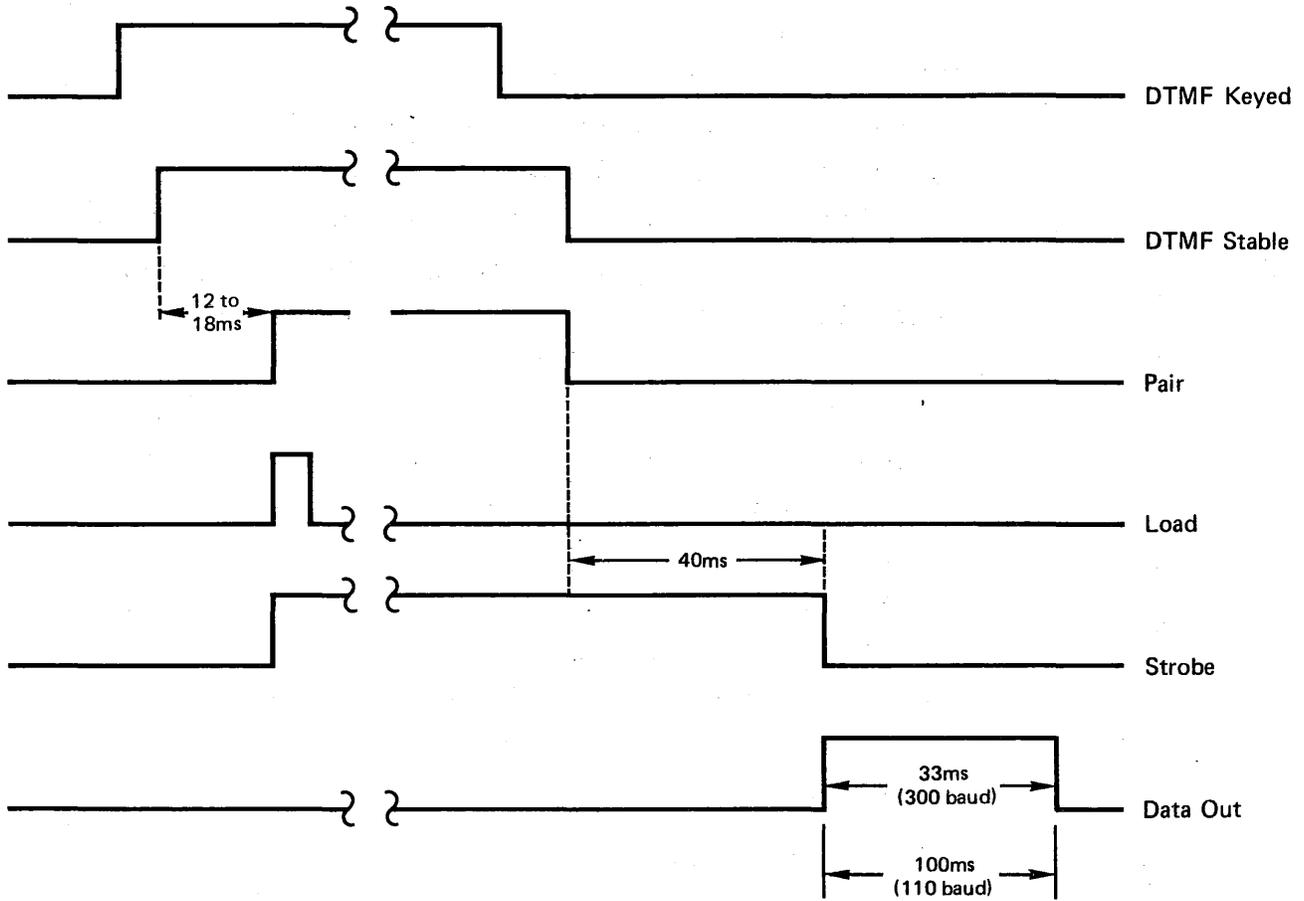

Figure 5-3. Timing Diagram (DTMF Reception through ASCII Data Transmission)
- (b) The internal control signals PAIR, STROBE and LOAD are generated as follows: the latched decoder outputs are sensed to indicate the detection of any group frequency. The presence of a tone pair is determined to generate PAIR. The decoders are continually updated in response to input signals; therefore to ensure data integrity, PAIR is delayed by 12 milliseconds before it is set. Simultaneous to setting PAIR, STROBE and LOAD are generated. LOAD sets the appropriate ASCII code into the serializer ready to be transmitted. After the DTMF pair (both tones) disappears from the line, PAIR drops and the modem waits 40 ms before resetting STROBE. This starts the outputting of the data as shown by DATA OUT. (See figure 5-3 for timing chart).